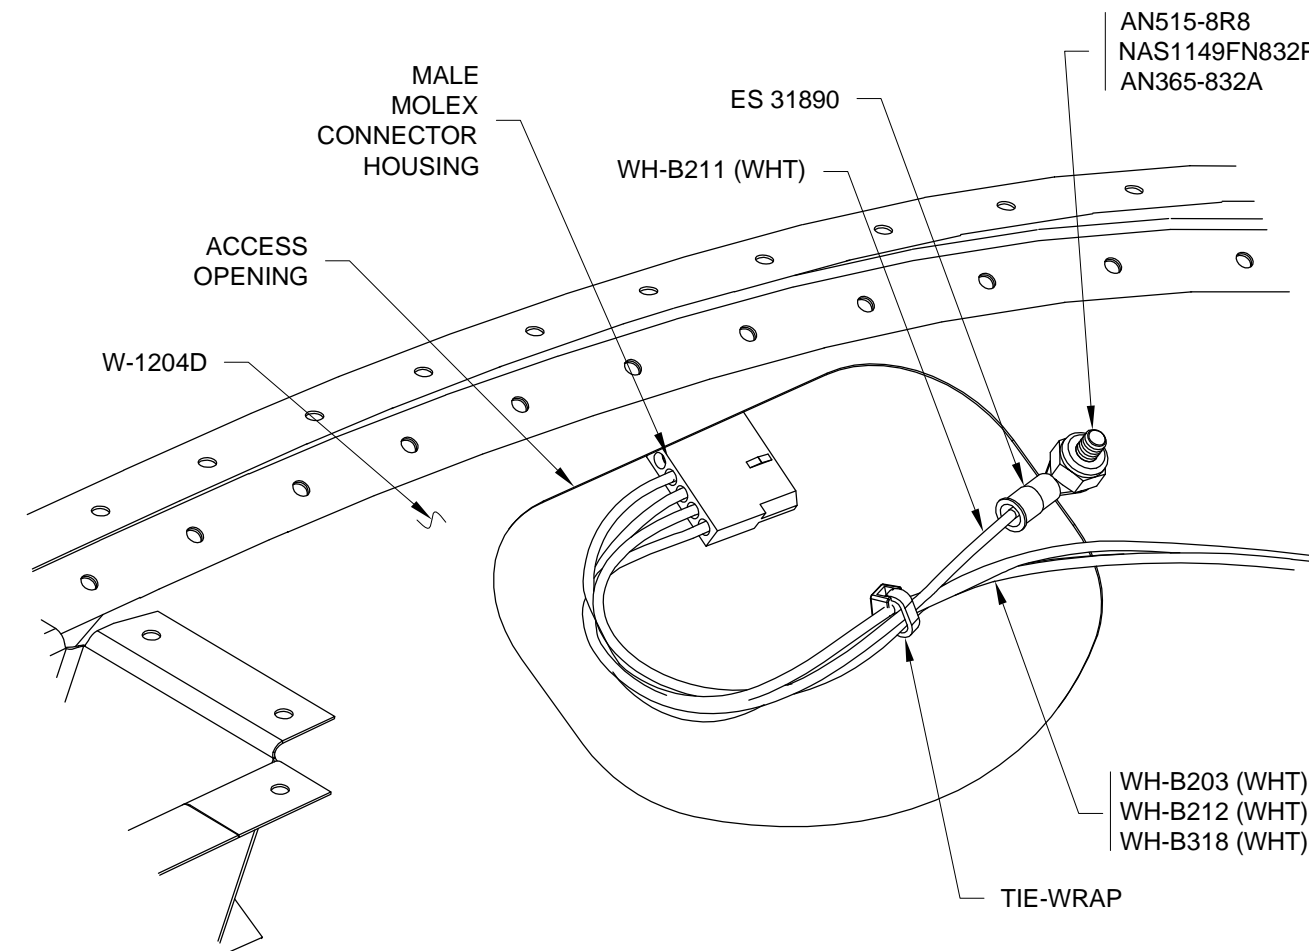

FIGURE 2: NAV/STROBE WIRE VIEW
Step 9: Tie-Wrap all four wires together near the ring terminal on each wing tip to prevent the wires from rubbing on the edge of the access opening as shown in Figure 2.
Step 2: Add a layer of electrical tape onto the W-1204D Wing Tip Close-Outs as shown in Figure 2 offset from the lower flange of the extensions by 1/32 of an inch. See Figure 1.